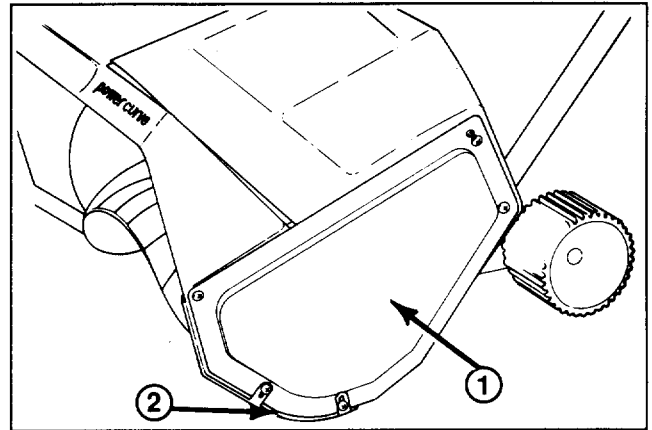
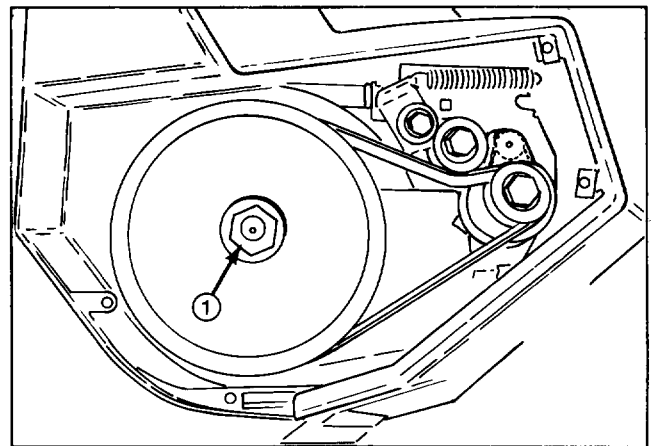

Figure 12
Figure 13
**Note:** If unable to remove rotor shaft by holding rotor, remove left side cover and skid (Fig. 12) and hold hex nut with a 7/8" wrench while unscrewing rotor shaft (Fig. 13).
1. Remove (5) screws securing left side plate to snowthrower frame (Fig. 12). Remove side plate and skid.
1. Remove (5) screws securing left side plate and skid to snowthrower frame (Fig. 12). Remove side plate and skid.